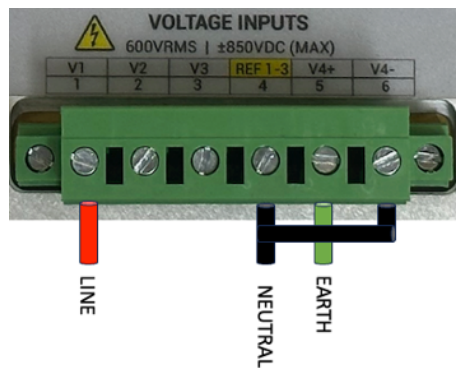

Figure 21: VECTO 3 Single-Phase Voltage Connection Layout
- Connect the Line Voltage to Voltage Input 1 as shown in Figure 21.